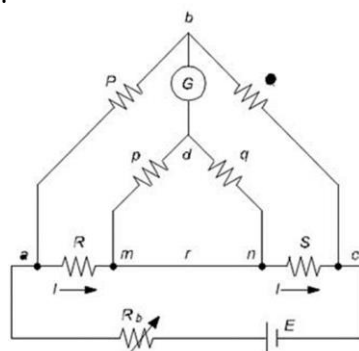

Figure 1
- 3B.** A Kelvin double bridge each of the ratio arms $P = Q = p = q = 1000 \, \Omega$. The emf of the battery is 100 V and a resistance of $5 \, \Omega$ is included in the battery circuit. The galvanometer has a resistance of $500 \, \Omega$ and the resistance of the link connecting the unknown resistance to the standard resistance may be neglected. The bridge is balanced when the standard resistance $S = 0.001 \, \Omega$. (Refer Figure 1 given below)